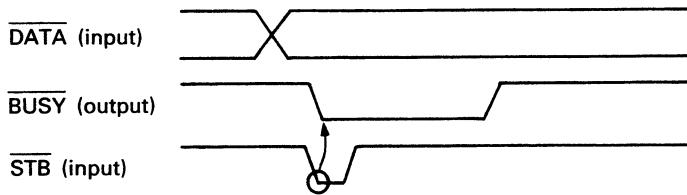

Fig. 5.3.3.A Synchronous Input Timing
**3.5.1.A Synchronous input timing (Type A I/O card)** Fig. 5.3.3.A shows the timing involved in inputting data using the command "IN."